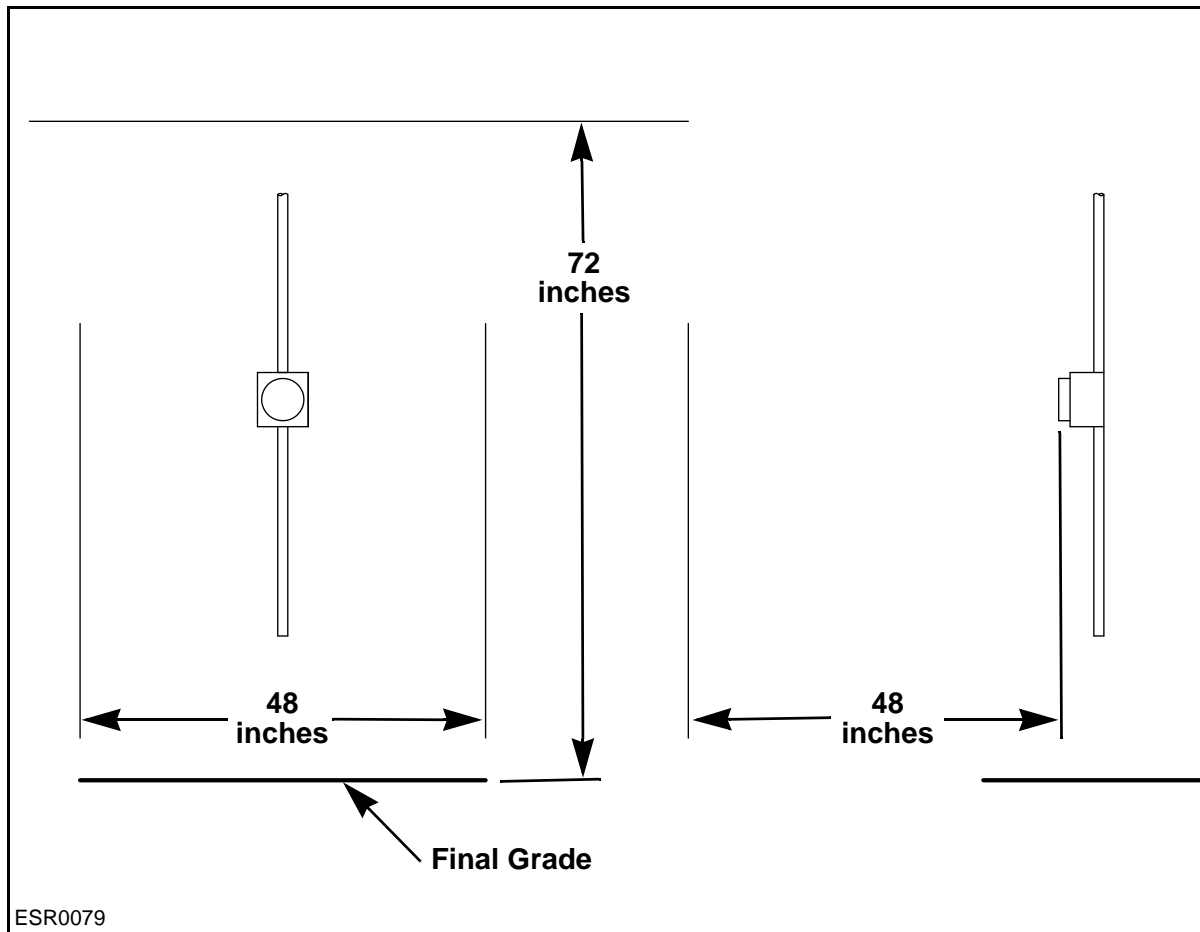

Figure 5-1: Minimum Unobstructed Workspace
- The minimum unobstructed workspace required in front of a meter is 78-inches high, 48-inches wide, and 48-inches deep per PGE. See **Figure 5-1**.